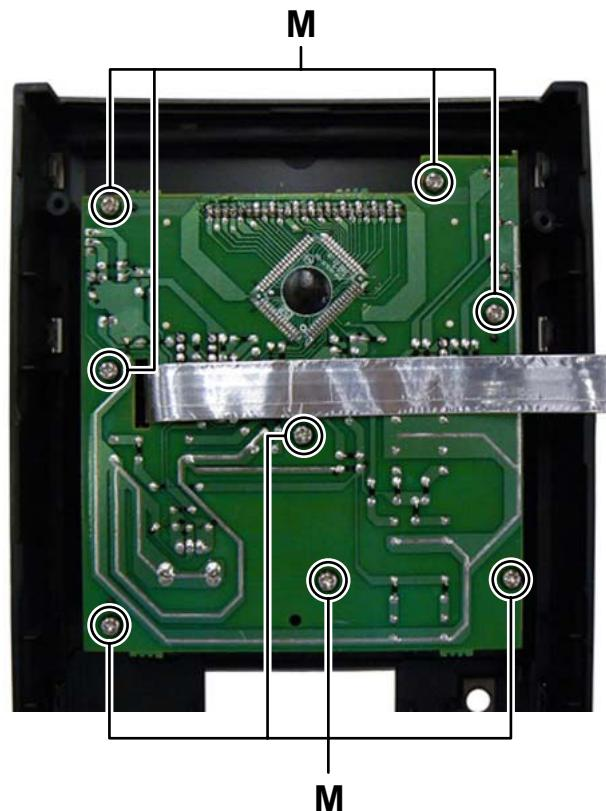

Fig.16
3.1.8 Removing the FRONT BOARD assembly (See Fig.16)